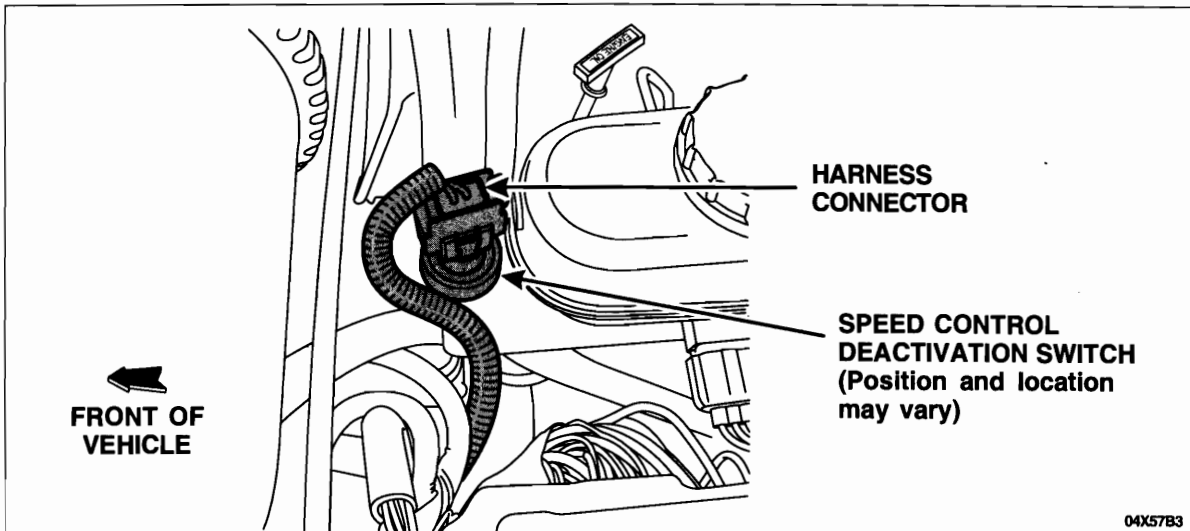

FIGURE 2
2. If necessary (E-150/250/350), lift the vehicle and disconnect the speed control deactivation switch and inspect the harness connector for the presence of brake fluid. See Figure 2.